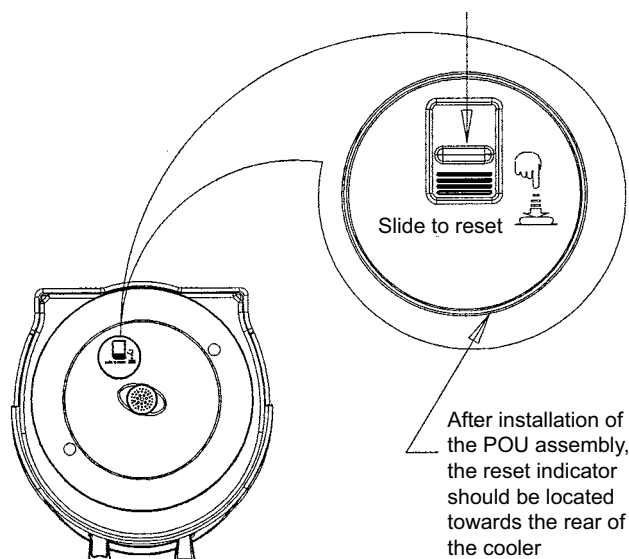

Figure 21.
9. After installation of the POU kit, the RESET indicator should be located towards the rear of the unit (Figure 21).